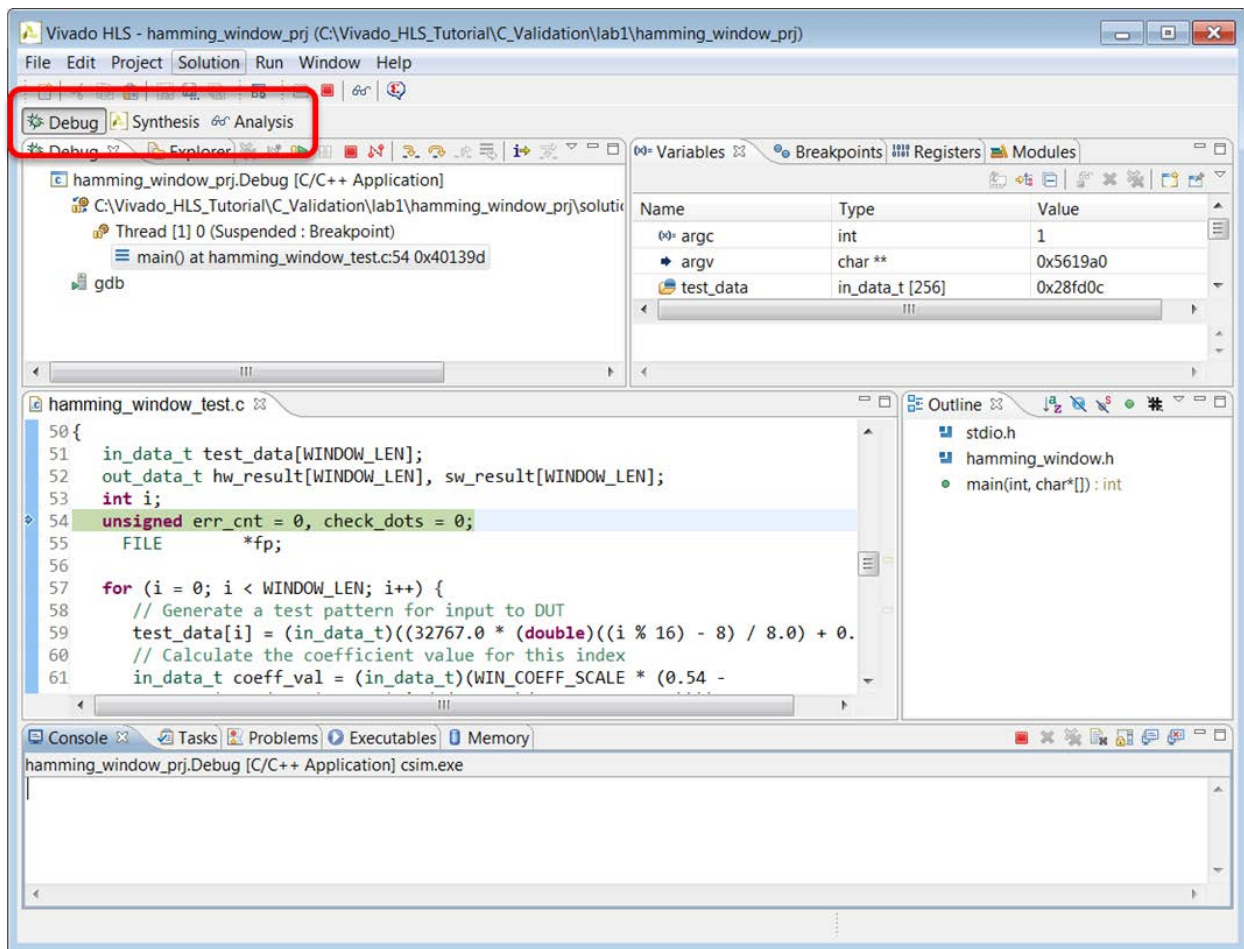

Figure 39: The HLS Debug Perspective
The Debug option compiles the C code and then opens the Debug environment, as shown in **Figure 39**. Before proceeding, note the following:
- Highlighted at the top-left in **Figure 39**, you can see that the perspective has changed from Synthesis to Debug. Click the perspective buttons to return to the synthesis environment at any time.